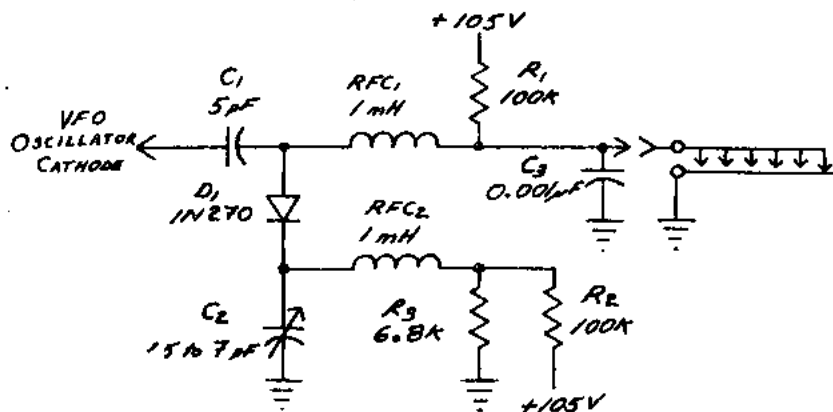

FIG. 1
In Figure 1 is shown the circuit to be added inside the VFO or the transmitter. The basic theory of operation is that when the diode is not conducting (Mark), the entire circuit is assumed to not be present and the oscillator operates at its nominal frequency. When the diode is conducting (Space), the series combination of C1 and C2 is placed across the oscillator circuit and the frequency of oscillation is shifted downward. The radio frequency chokes (RFC1 and RFC2) isolate the diode DC biasing network from the diode and its capacitors (C1 and C2).
The circuits given in Figures 1 and 2 turn the diode fully on and off - a method that appears to be much less critical of diode characteristics and temperature than does the partially-conducting shift pot. method.
Because the FSK circuit (Figures 1 or 2) is to be added inside a transmitter/VFO, the components might not be the exact values required. The following bibliography lists information appearing in the RTTY Journal for specific transmitters.
If you want to build one from scratch, you might try the circuit shown in Figure 1. Basically, it is a simple full-wave bridge rectified supply with capacitor input filtering. The transformer is a simple "isolation" transformer. The advantage of using an isolation transformer is that it can always be used for its original purpose if you no longer want it for a loop supply. Suitable type numbers are: Allied 6K112HF, 6K38VCP; Essex (Stancor) P-6410; TriadN-51X, N-68X. These are all 35 or 50 VA transformers. Many are available in higher power (VA) ratings.